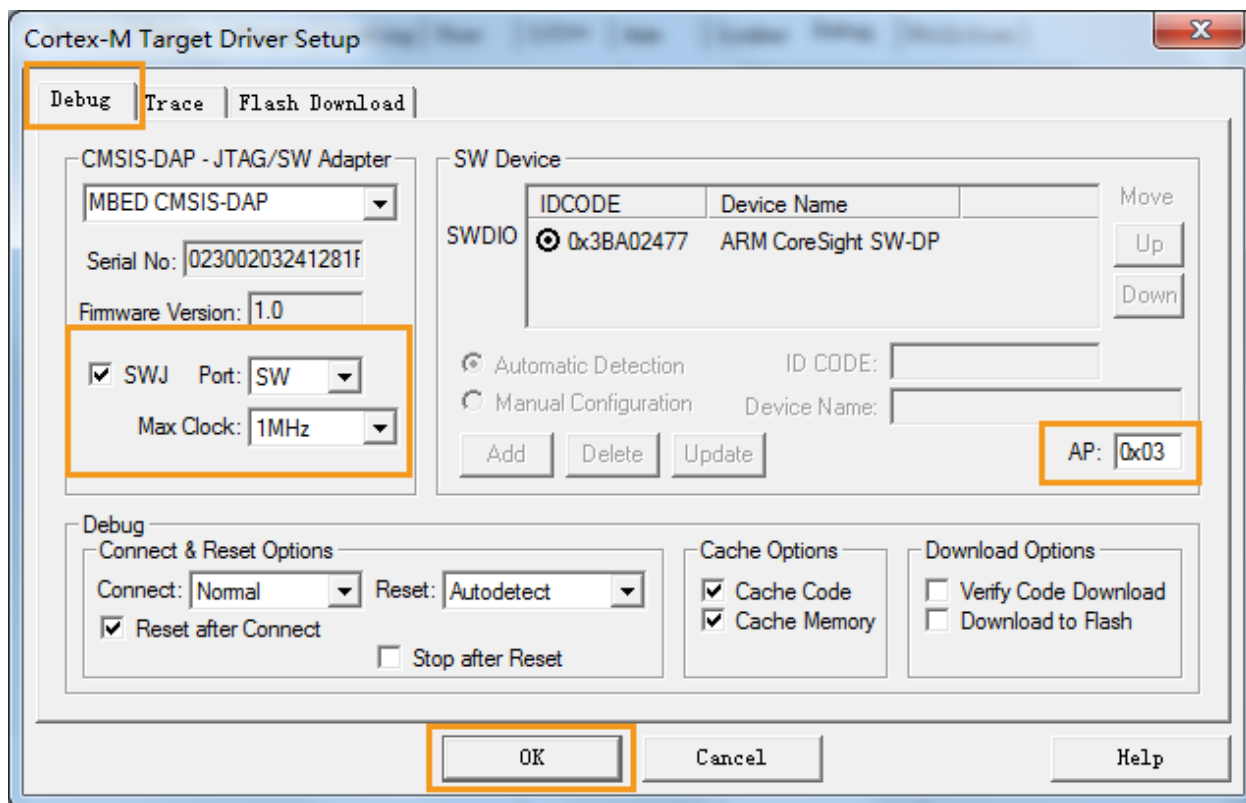

Figure 57. Setting the debug parameters on LinkIt 2523 HDK
8) If debugging on LinkIt 2523 HDK, set **AP** as 0x03, as shown in Figure 57.